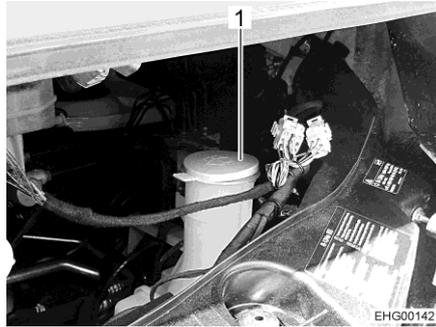

Fig. 35 Filler neck (washer fluid container)
- Remove the lid (Fig. 35,1) from the filler neck of the washer fluid container.
- Replace the cap (Fig. 35,1) of the filler neck of the washer fluid container.